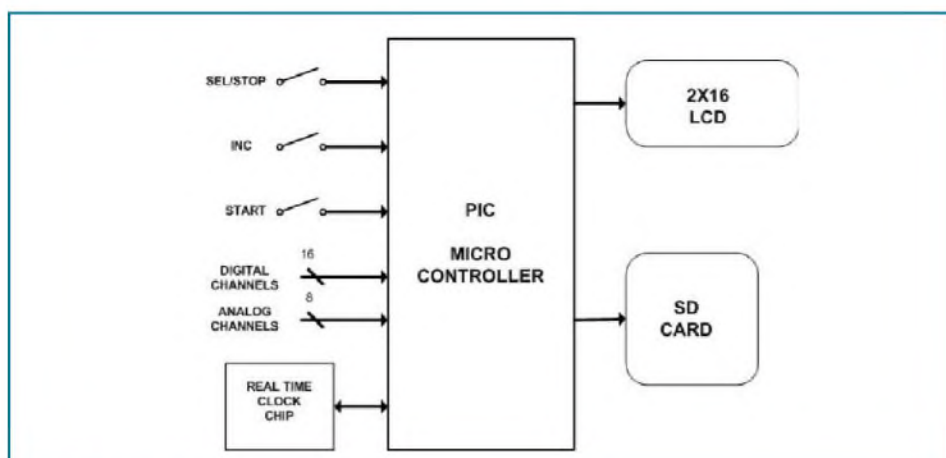

Figure 2: Block diagram of the data logger
**Figure 2** shows the block diagram of the data logger. The device has 24 channels. The captured data is stored on the SD card with time stamping, in a format suitable to be imported into Excel for offline analysis.